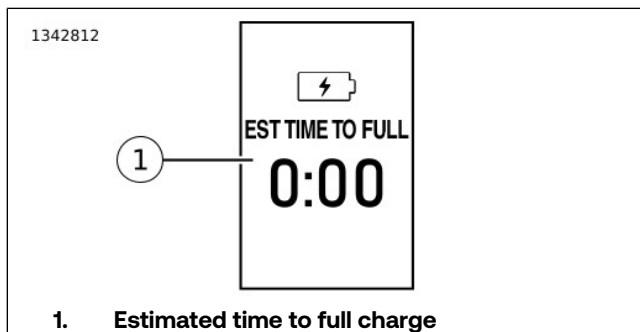

Figure 47. Charging Widget
See Figure 47. The charging widget displays estimated time to full charge (1).